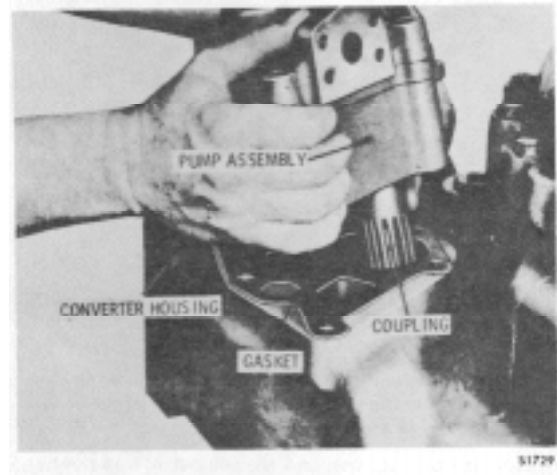

Figure 15-181. Installing Oil Pump Assembly
1. Install the oil pump drive gear coupling onto the oil pump drive gear shaft (Figure 15-181). Install the oil pump gasket onto the converter housing. Install oil screen 30 (A, Foldout 5), if removed. Install the input-driven charging and